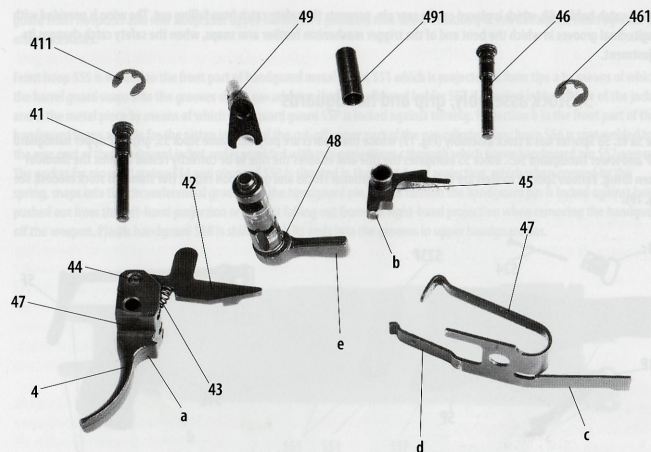

Fig. 17 *The trigger mechanism /disassembled/*
**Striker 37** (Fig. 13) strikes against the firing pin. It is of a hollow cylinder shape closed at its front end by a smooth front wall coming into contact with the firing pin. The rear open end has a head provided with grooves by which the striker is guided along the bars in the receiver. The striker head is elongated downwards, thus forming a nose *o*. The cylindrical part of the striker is relieved along the periphery by means of six longitudinal grooves. The groove on the left-hand side of the striker is closed on its front side and is elongated backwards as far as the striker head. Along the groove is guided the projection of the bolt carrier. The projection prevents the striker from falling out of the bolt carrier. This closed groove is joined with the neighboring longitudinal groove by means of a cross groove which enables the projection of the bolt carrier to pass to the closed groove. Striker spring 382 (Fig. 17) is inserted with its one end into the cylindrical cavity of the striker.